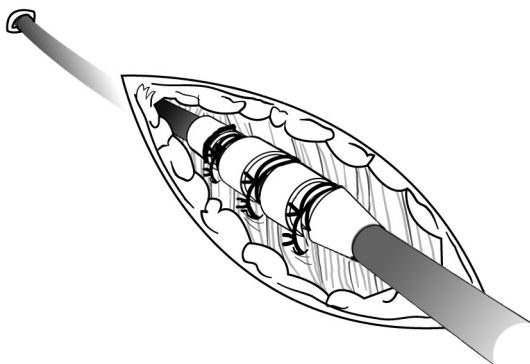

Figure 12. Example of suture sleeve, percutaneous implant technique
1. Peel back the introducer sheath and slide the suture sleeve deep into the tissue (Figure 12 Example of suture sleeve, percutaneous implant technique on page 25).